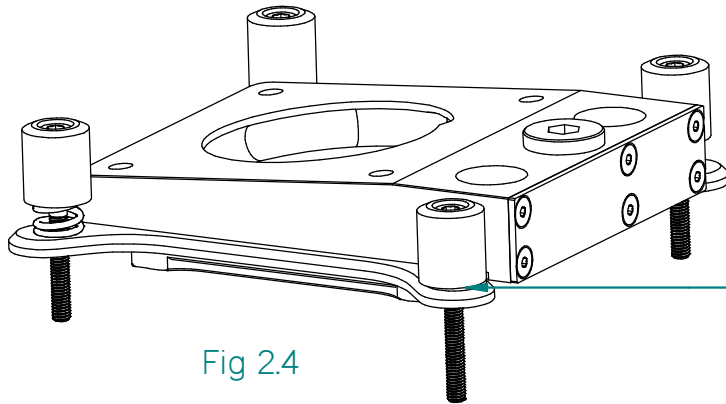

Fig 2.4
Step 2. Insert spring pack screws into top mounting plate as shown in Fig 2.4 above. and carefully lower LOBO block onto CPU.